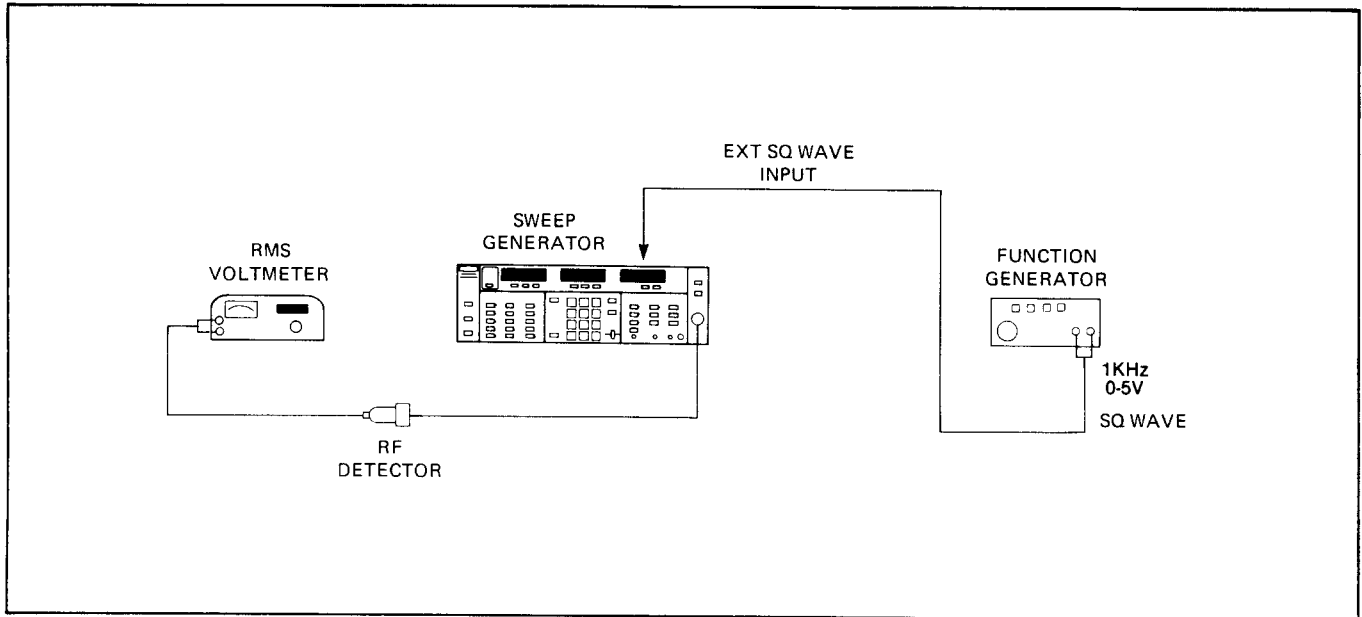

Figure 4-8. Test Equipment Setup for Residual AM Test
- a. Connect test equipment as shown in Figure 4-8, and turn the equipment on.